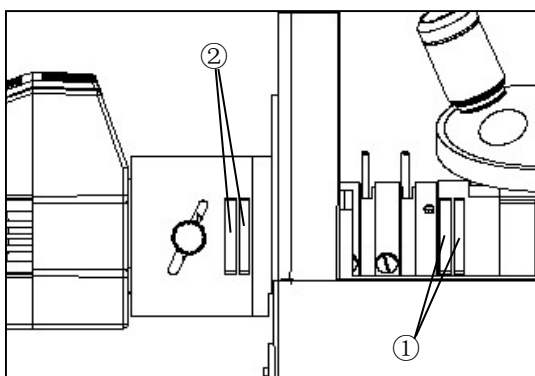

Fig.13
(Fig.13)
For polarization observation, insert the polarizer② into the right jack, as shown in Fig.13.